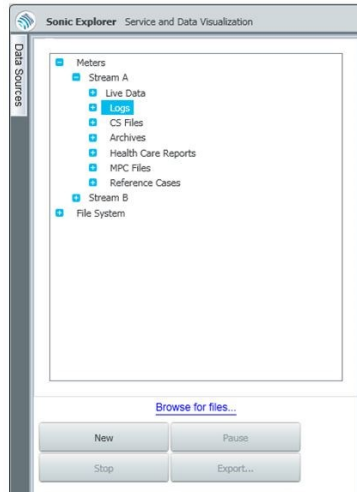

Figure 12-1 View logs
- ▶ Go to: **Meters** → **<Meter Name>** → **Logs**. At the bottom left you have four action buttons. (**New**, **Pause**, **Stop**, and **Export**). Please see Figure 12-1.